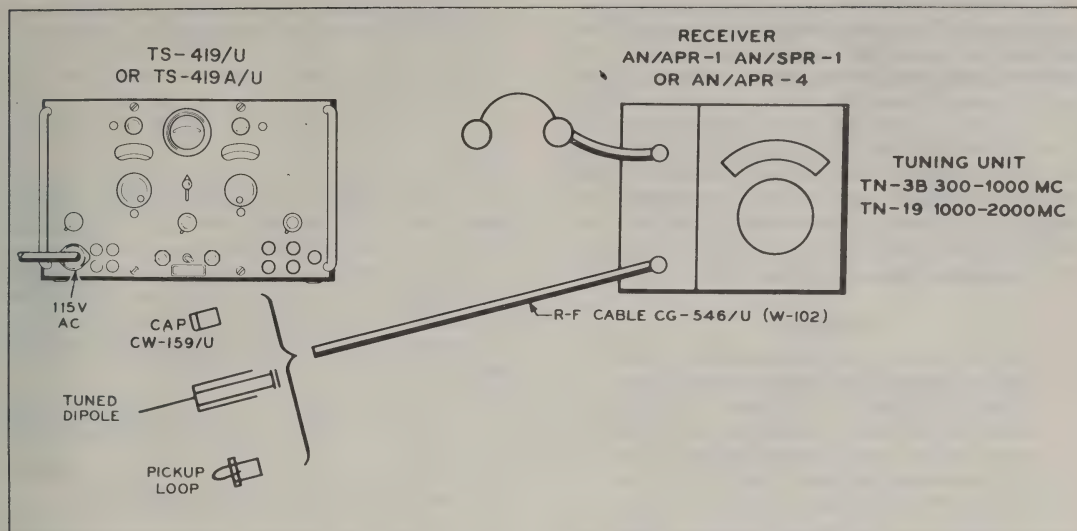

Figure 4-10. Test Connection Diagram for Measurement of R-F Leakage
(1) Connect the required test equipment as shown in figure 4-10. Turn the equipment on and allow a minimum period of 20 minutes for warm-up to insure complete stabilization.
(2) Set the controls of Signal Generator TS-419 U as follows: